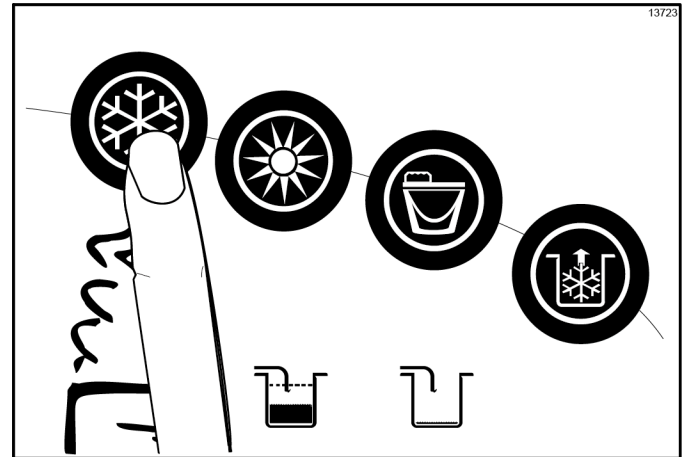

Figure 6-55
4. When ready to resume normal operation, press the Auto key . (See Figure 6-55.)